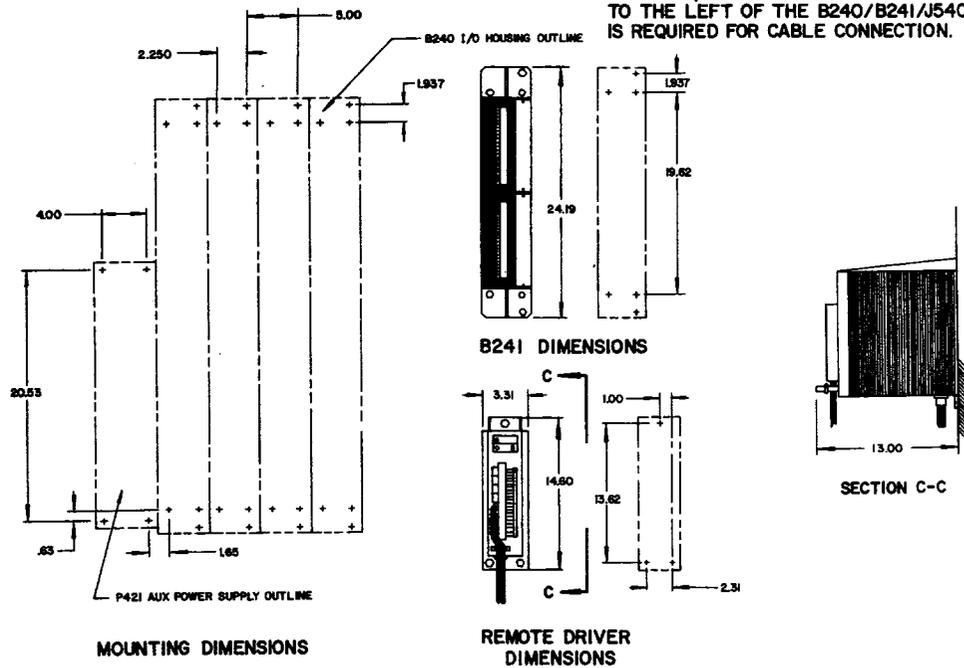

Figure 4-7. 200 Series I/O Mounting Dimensions
2. Mark the housing's support surface. Loosely bolt the housing into place at the right-most location for that channel. Mounting dimensions for the 200 Series I/O are displayed in Figure 4-7.